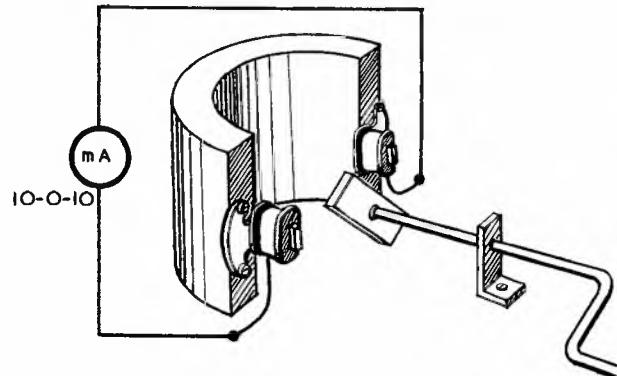

FIG. 2.
- STEP 6. Disconnect the apparatus. Connect the variable reluctance generator model to the centre scale milliammeter (Fig. 2).
(6) L.B.